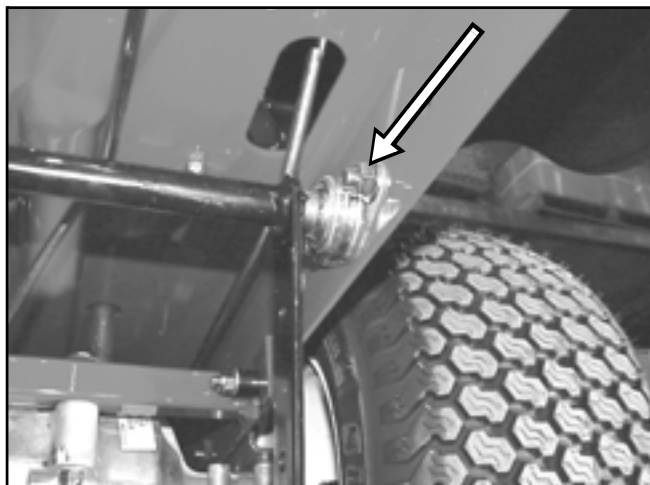

Figure 20
2. Unbolt the flange bearing from the left side of the unit and remove from the end of the lift arm shaft (Figure 20).